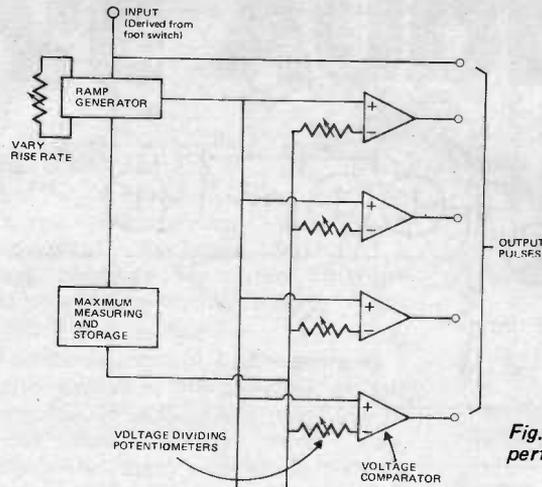

Fig. 5. Rhythm generator with 'live performance' control capability.
R.A. Hoare of New Zealand has explored the possibility of a system which could continuously adjust itself to the tempo of the musician (Figs. 5 and 6).